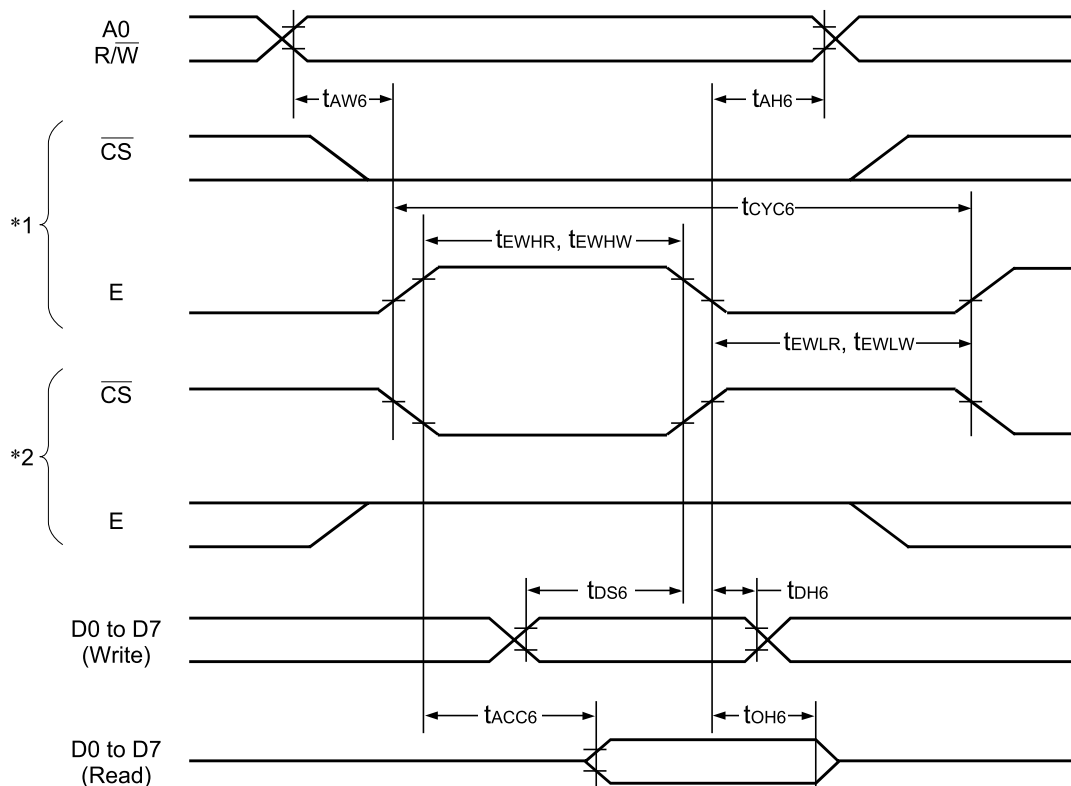

Fig. 27
- *2 For the V_{DD} and V_0 operating voltage ranges, see Fig. 27. These ranges are applied when using the external power supply.
- *3 A0, D0 to D5, D6 (SCL), D7 (SI), \overline{RD} (E), \overline{WR} (R/ \overline{W}), \overline{CS} , CL, FR, M/S, C86, P/S, \overline{DOF} , and \overline{RES} pins
- *5 A0, \overline{RD} (E), \overline{WR} (R/ \overline{W}), \overline{CS} , M/S, C86, P/S and \overline{RES} pins
- *6 Applied when D0 to D5, D6 (SCL), D7 (SI), CL, FR, and \overline{DOF} pins are in the high impedance state
- *7 Resistance value when the 0.1 V voltage is applied between the output pin SEGn or COMn and power supply pins (V1, V2, V3, and V4). Specified within the range of operating voltage (3)